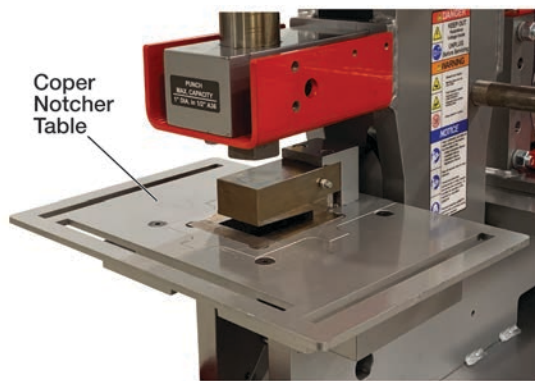

Figure 6
3. Place Coper Notcher Table on Ironworker frame (see Figure 6). Align threaded mounting holes on bottom of Coper Notcher Table with mounting slots on ironworker frame table pedestal.